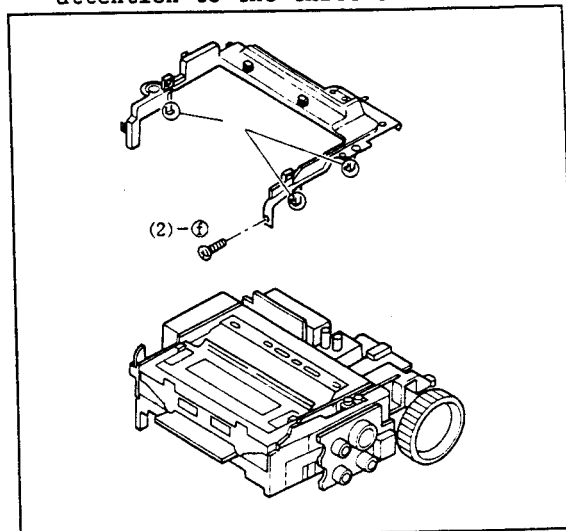

Fig. II-8
- (1) Demount the AV terminal cover while shifting the hinge pin.
- (2) Remove three screws ⑧ and one ① (ref. fig. II-8).
- (3) Remove the connector CN801.
- (4) Demount the front cover.